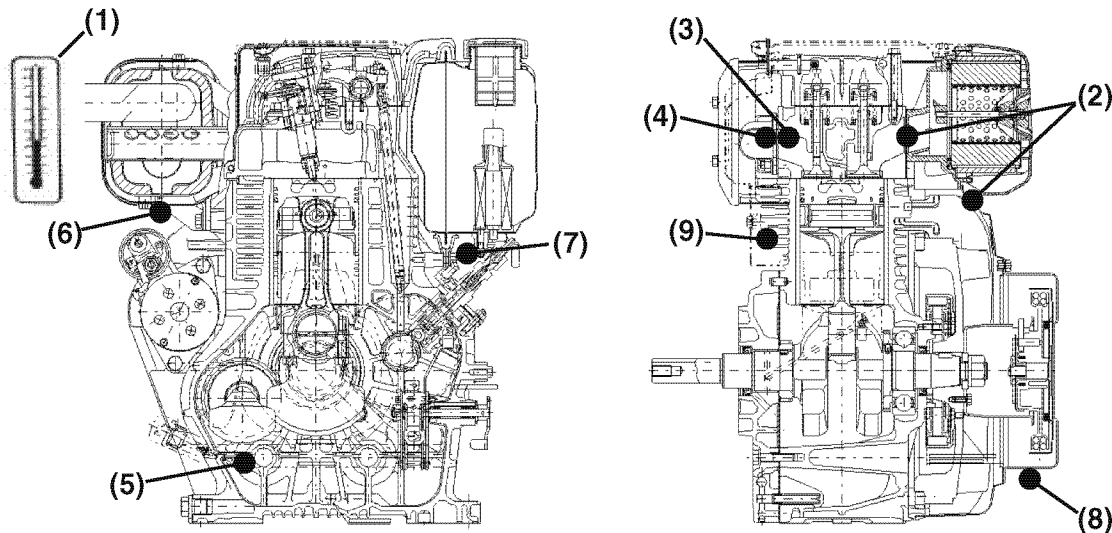

Figure 8-1
See (Figure 8-1, (1)):
See (Figure 8-1, (2)):
See (Figure 8-1, (3)):
See (Figure 8-1, (4)):
See (Figure 8-1, (5)):
- Measure the temperature at the lower level (L) mark on the dipstick.
See (Figure 8-1, (6)):
See (Figure 8-1, (7)):
See (Figure 8-1, (8)):
See (Figure 8-1, (9)):